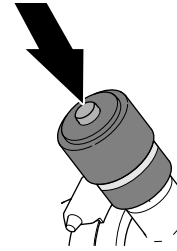

Figure 115
1. If a red band displays in the service indicator, press the reset button at the end of the indicator (Figure 115).